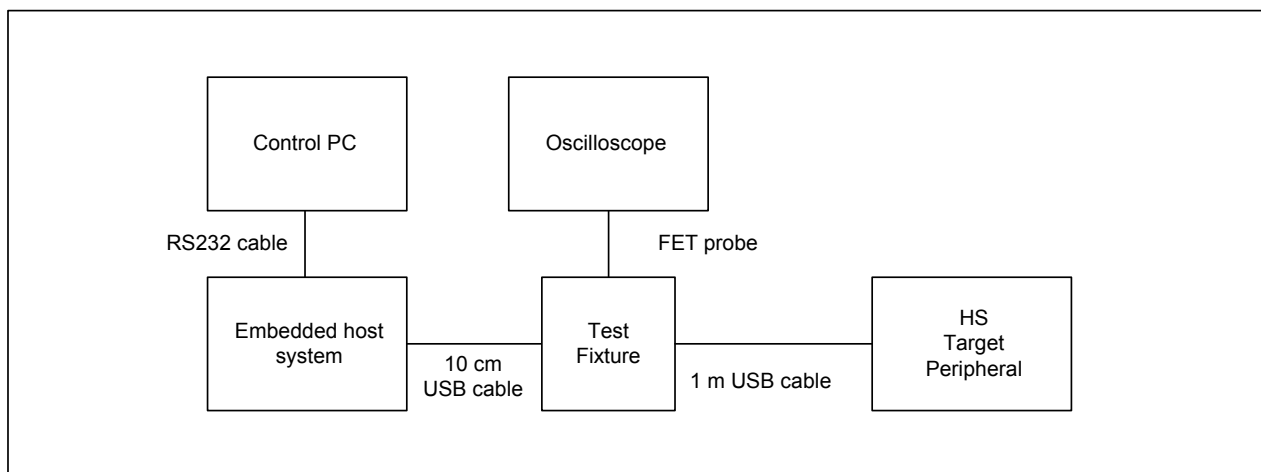

Figure 5-5 Host chirp timing testing configuration
Measures HS chirp timing. This measurement is made if the system supports HS devices. Figure 5-5 shows the testing configuration.
1. Connect as shown in Figure 5-5.